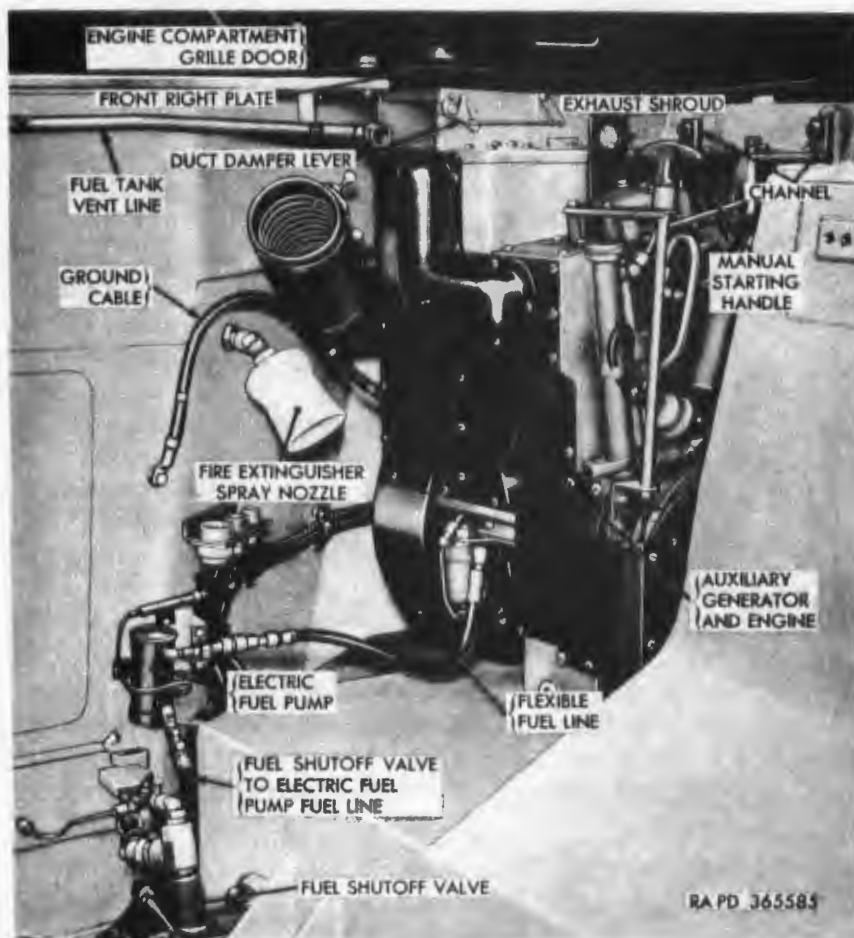

Figure 161. Auxiliary generator and engine—installed view.
Note. Auxiliary generator and engines with serial No. 7329 and up have been modified by relocating the fuel filter and incorporating an electric fuel pump (fig. 161) in the fuel system. This provides the engine with a pressurized fuel system which minimizes vapor locking conditions encountered during extremely high air temperatures. These units will be referred to herein as "late" engines.
- (c) *Late engines.* The flexible fuel line (fig. 161) is connected to an electric fuel pump which in turn connects directly to the fuel shutoff valve. Fuel is pumped from the electric fuel pump to a fuel filter that is bracket mounted on the lower right side of the engine; from this point, the fuel system is similar to that of the early engines.
- (6) Remove bulkhead door (par. 243a) and disconnect quick-disconnect coupler to flexible fuel line (fig. 161) from fitting on bulkhead.
- (8) Disconnect right fuel tank flexible vent line from fuel tank vent line (fig. 161).
- (12) Remove two hex-head bolts and lockwashers securing channels (fig. 161) to mounting rails and lift out channels.
- (6) Connect right fuel flexible tank vent line to fuel tank vent line (fig. 161).
- (7) Close engine compartment grille doors.
- (8) Connect quick-disconnect coupler of flexible fuel line (fig. 161) to fitting on bulkhead and install bulkhead door (par. 243b).